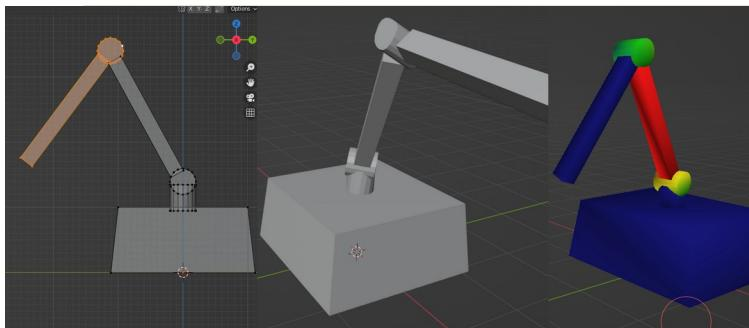

Figure 12-1 The Robot Arm Showing Distortion of the Mesh
Sometimes you need to move parts of an object without inducing any bend or stretch, such as where the material is supposed to be steel or plastic. In the following exercise you will make a robot arm consisting of six very simple meshes, see Figure 12-1. You will then add an armature and see how to constrain and then animate its movement. Links to the files and videos for the exercises in this chapter are at get-into-blender.com *12.ANIMATION AND RIGGING*
- Now you should arrange all your components into a robot arm shape using the orthographic view along the X axis as shown on the left of Figure 12-1. So long as you specified the Z or Y directions when you did the movements in the last paragraph, everything should lie in the plane $X = 0$, but check this by viewing along the Z or Y axis. You can select all the vertices in each of the meshes by first selecting one vertex then running **Select ▶ Select Linked ▶ Linked**. But note that you will need to do that selection many times during this exercise so you might want to adopt the shortcut **CTRL-L**.
7. You will find that there are two problems as shown in the middle of Figure 12-1. The first is that the joints all behave like ball and socket with no restriction of how far, and about which axis, rotation takes place. The second issue is that the cylinders become distorted as the arm is posed, and move relative to the cuboid section of the arm. Switch back to Object mode, select the robot_arm object and switch to Weight Paint mode. In the Object Data Properties select each of the vertex groups and see how the color varies. On the right of Figure 12-1 the weights are being shown for vertex group Bone.002, some vertices are being affected by more than one bone and, for any given bone, some vertices are being affected more than others. This isn't what you want for a supposedly solid component.